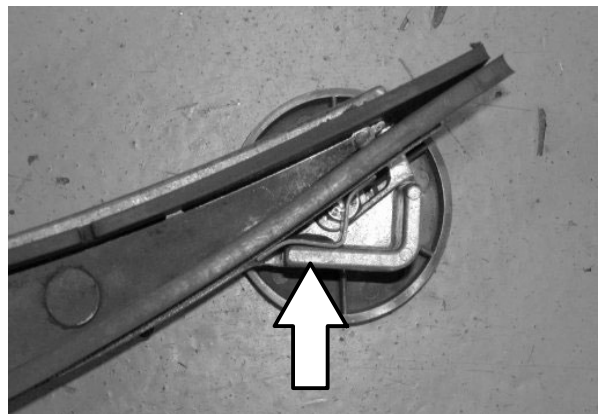

FIG. 6
9. Slide the squeegee strap assembly (6) into the squeegee frame (1). Seat the squeegee strap assembly flanges inside the retainers on squeegee frame. Refer to Fig. 6.